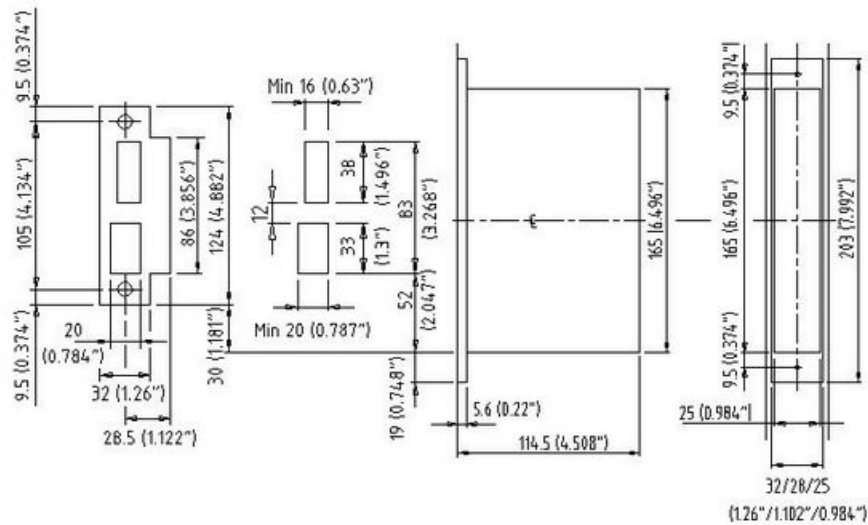

Figure 11: External striker plate dimensions and cut-out dimensions for ANSI (DA).
Before mortising for the striker plate, make sure to align the side template vertically and horizontally according to Figure 11. Use the center line (CL) for the lock case as a reference. Position the striker plate so that the bottom of the striker plate is 30 mm (1.18") above the bottom of the lock case.